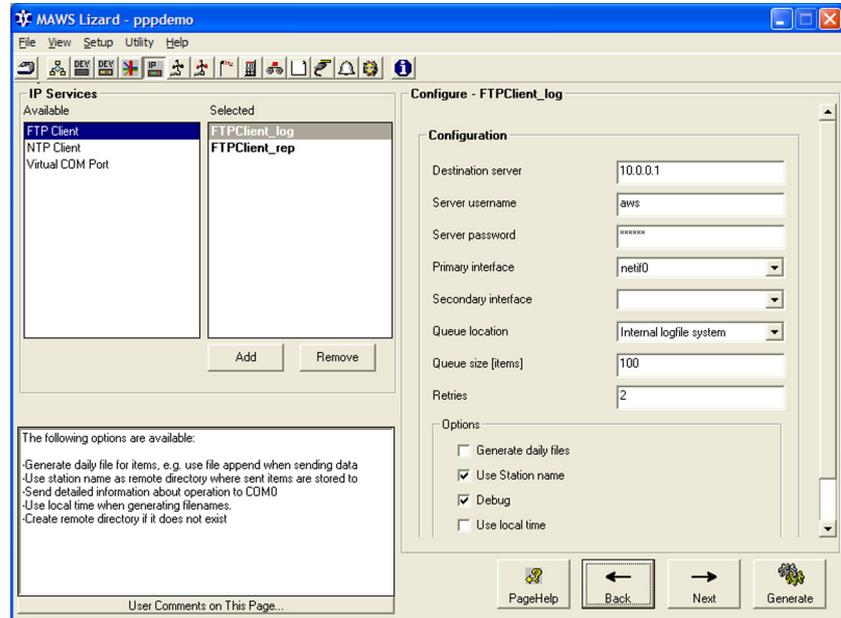

Figure 162 Configuring FTP Clients
4. In the **IP Services** view, create and configure FTP clients for transferring reports and log files. See Figure 162 on page 323.